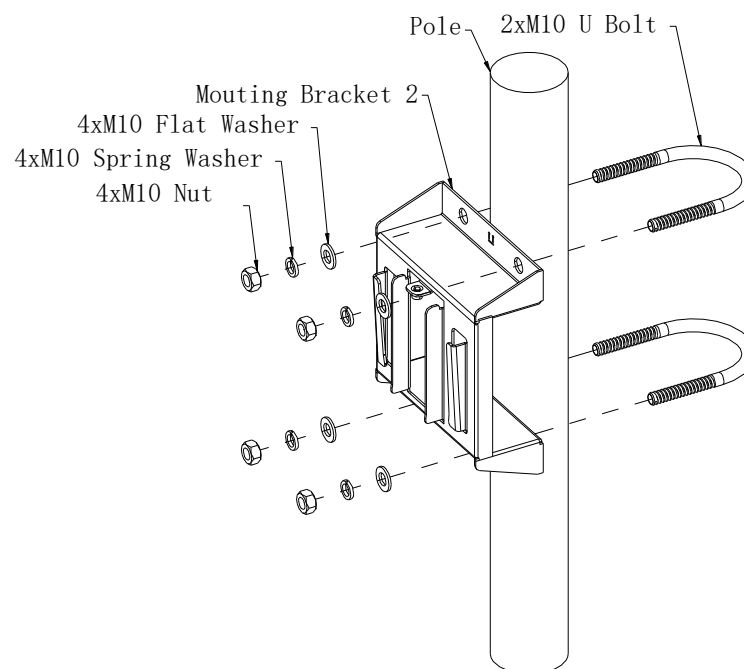

Figure 2.5.2 Pole-mount Installation Diagram
Step 2: use 2 U-Bolt to install the mounting bracket 2(RRH-3522-5832) to the pole(the diameter of the pole should less than 75 mm), as shown in Figure 2.5.2.